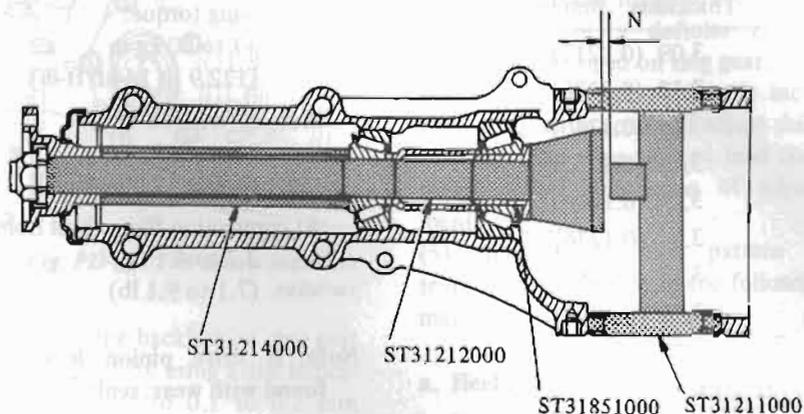

Fig. PD-17 Adjusting pinion height
- Insert Dummy Shaft Spacer ST31851000, pinion height adjusting washer (use one of 3.09 to 3.27 thickness) and rear bearing cone into Dummy Shaft ST31212000 to make convenient to adjust pinion height. See Figure PD-17.
1. Install Height Gauge ST31211000 on carrier with dummy shaft mounted. See Figure PD-17.